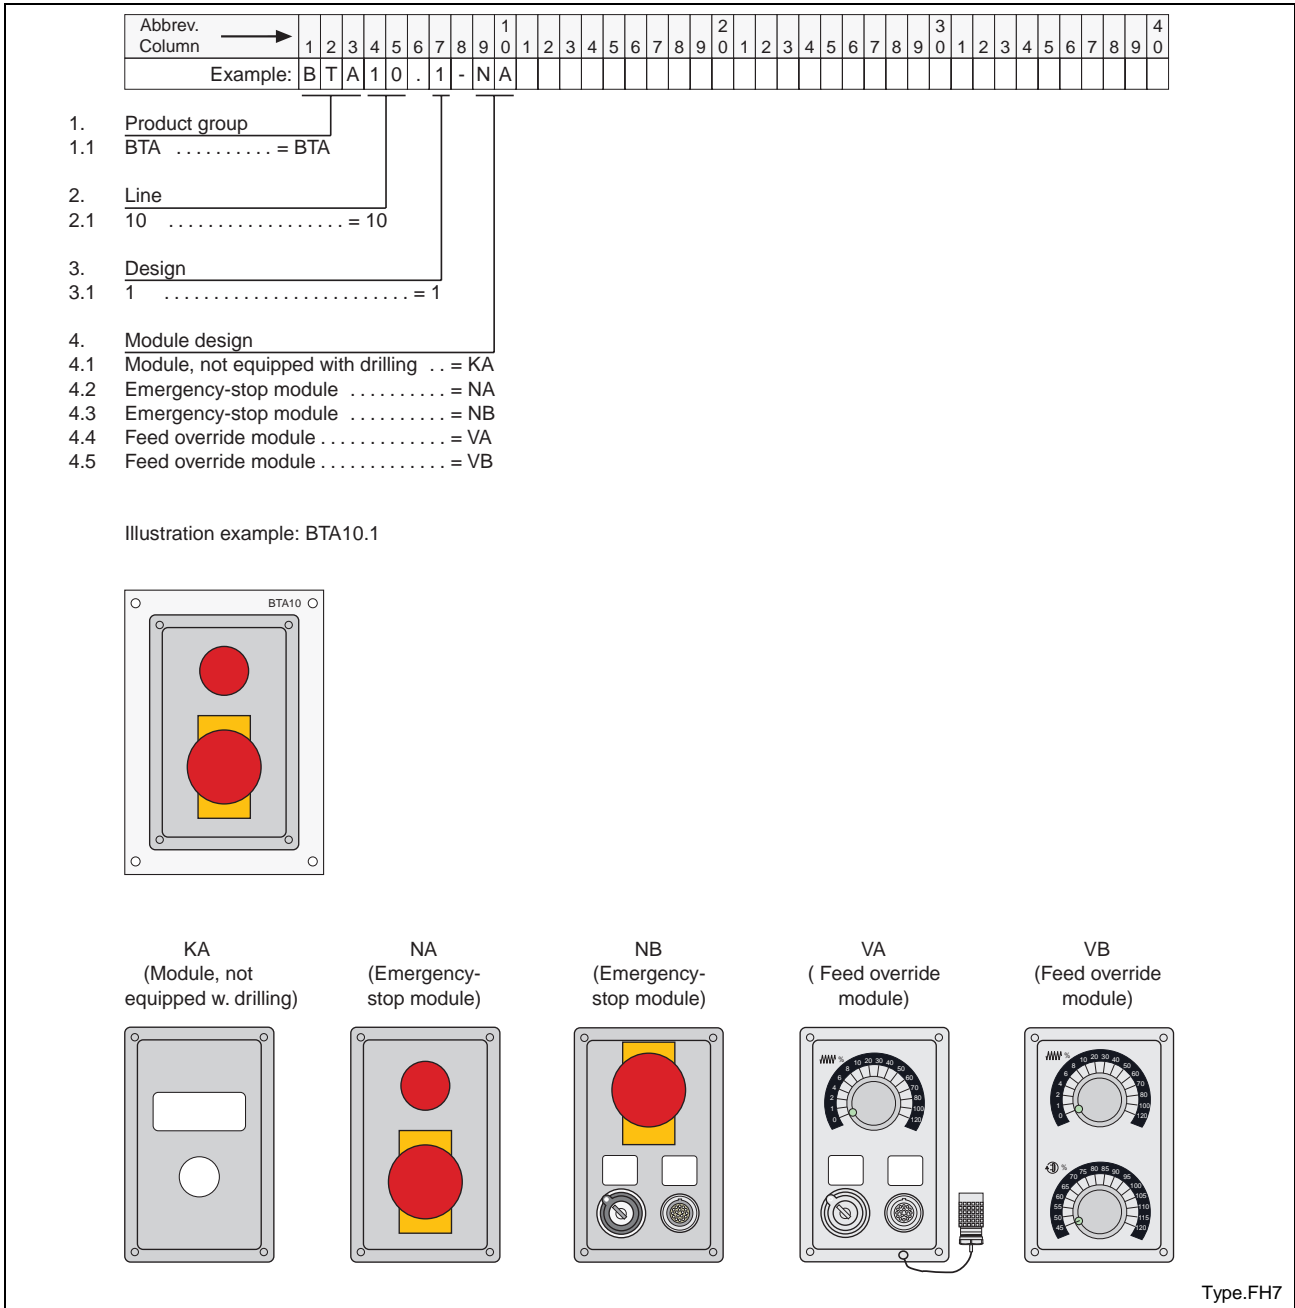

Figure 7-1: BTA10 type code
- Figure 7-1: BTA10 type code 7-1